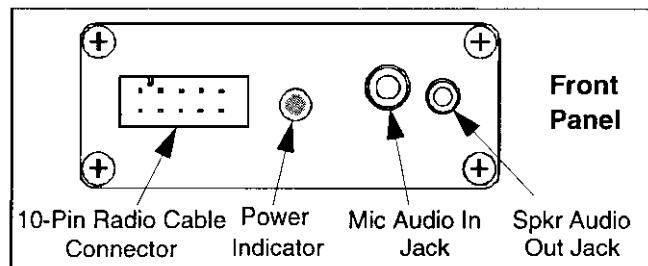

Figure 6-2 RPI Front Panel
1. Connect a SINAD meter to the Speaker Audio Output jack of the RPI (see Figure 6-2).